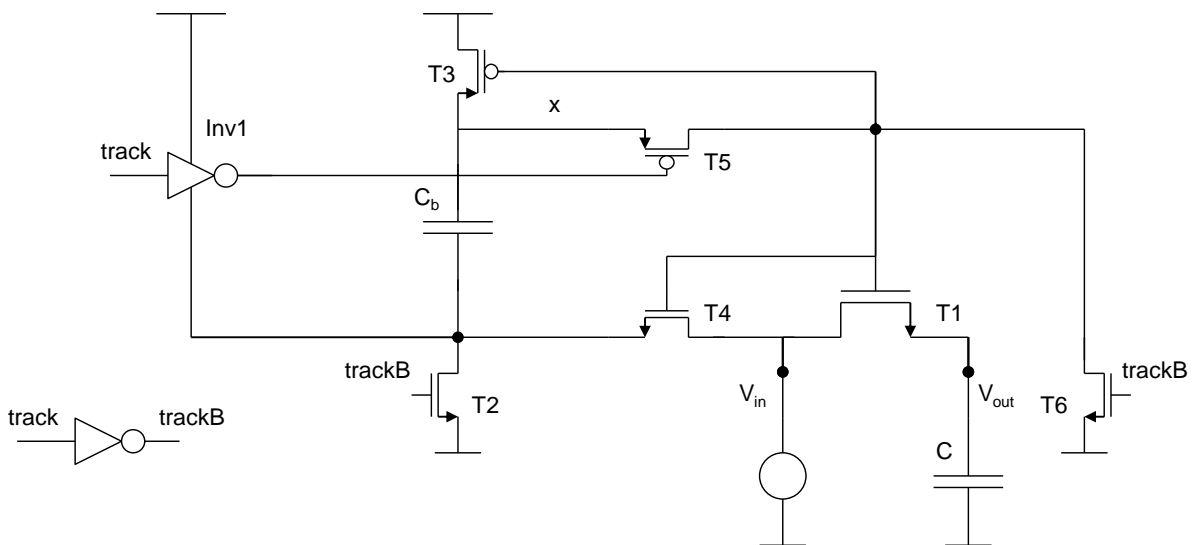

Figure 18: Bootstrapped switch – implementation.
- **Transistors T1, T3, and T4** have the **same gate potential in both phases**. We can therefore **tie the gates of T1, T3, and T4 together** (Figure 18). The capacitor C_b generates the gate potential for T1, and thus also for T3 and T4.
This potential can be generated using an **inverter-like circuit Inv1** (Figure 18). The ground of this inverter is connected to the **source of T4**, since this potential is also V_{in} in the track state.